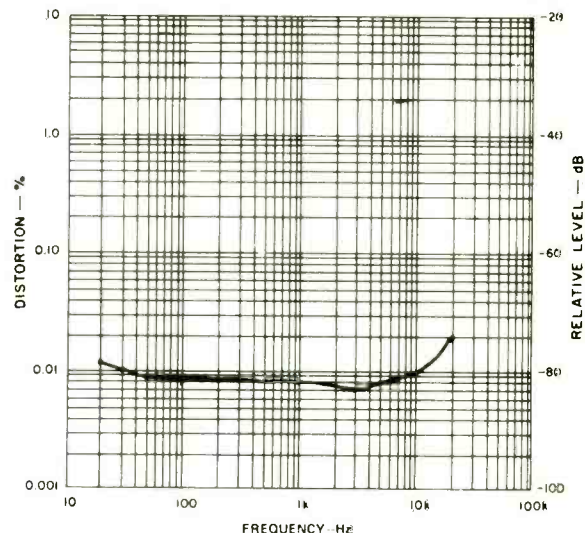

**Fig. 2: Heathkit AA-1600: Harmonic and IM distortion vs. power output/channel.**
**Test Results:** All published specs for the Heathkit AA-1600 were, in *MR*'s tests, exceeded by fairly wide margins. THD was especially low up to, and beyond, rated power. At 1-kHz inputs, the amp delivered more than 140 watts per channel before reaching its rated 0.05% THD, and more than 146 watts for an IM reading of 0.05%. Results are graphed in Fig. 2, while distortions-vs.-frequency, with both channels delivering rated power into 8-ohm loads, is plotted in Fig. 3.